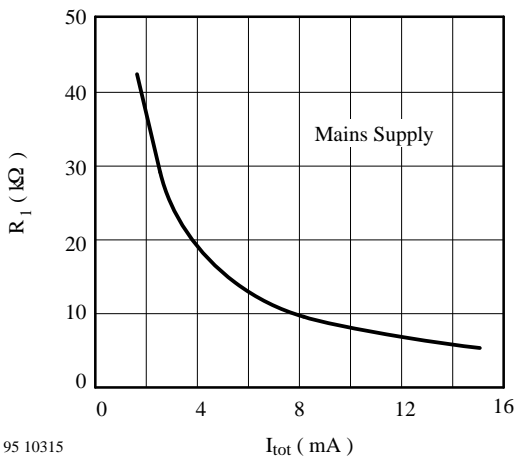

Figure 16.
- R1 can be easily evaluated from diagram figure 16 and 17